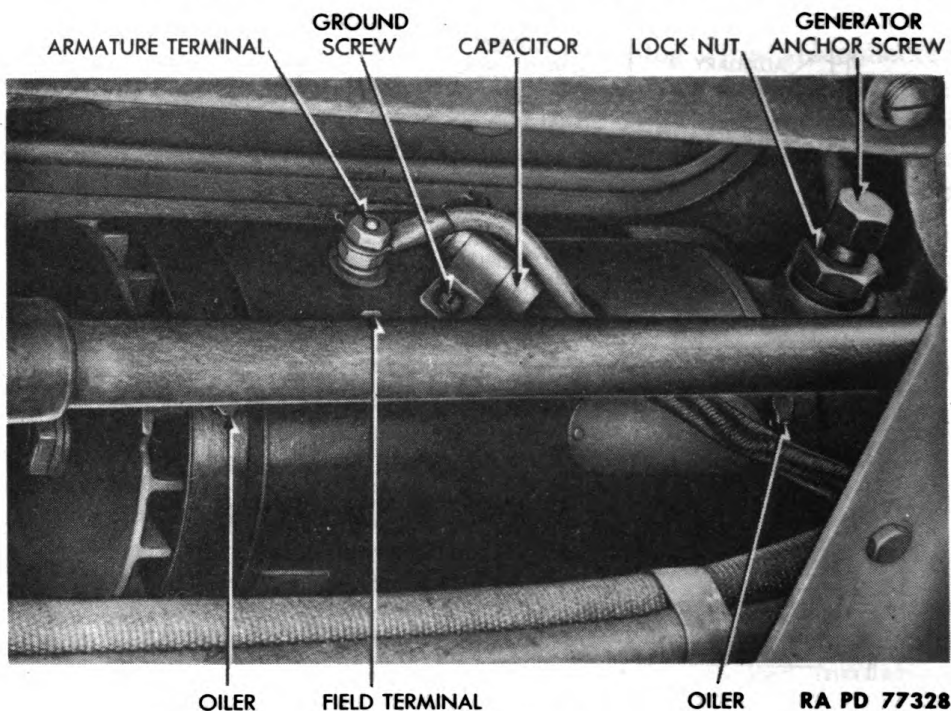

Figure 55 - Generator Installed
a. **Description** (fig. 55). A heavy-duty, two-brush type, 6-volt generator is used. It is located at the right front of the engine between the engine and the frame side rail. It can be reached through the right-hand cab skirt opening and from under the truck. It is gear driven from the engine gear case. Removal of the head band provides easy access to the commutator and two brushes. The armature shaft rides on two ball bearings which are lubricated through two built-in oilers. The function of the generator is to furnish electrical energy to keep the batteries charged, and to operate the vehicle's electrical system.
(2) **DISCONNECT WIRES** (fig. 55). Disconnect the three wires from top of generator. Tag wires to facilitate installation.
(3) **DETACH GENERATOR** (fig. 55). Loosen lock nut and generator anchor screw. Work generator back carefully until generator and governor gears are out of mesh.
(2) **ATTACH GENERATOR TO ENGINE** (fig. 55). Insert generator into engine opening and carefully work gear into mesh with camshaft and governor gears. Tighten anchor screw and lock nut.
(3) **CONNECT WIRES** (fig. 55). Three wires project from harness at generator. Connect as follows: black to ground screw, yellow to field (small) terminal, and red to armature (large) terminal. If a capacitor (or condenser) is used, mount it on ground screw and connect its lead to armature terminal.
(4) **POLARIZE GENERATOR** (figs. 55 and 57). Momentarily connect a jumper wire between armature terminals on generator and voltage regulator. This permits a momentary surge of current to